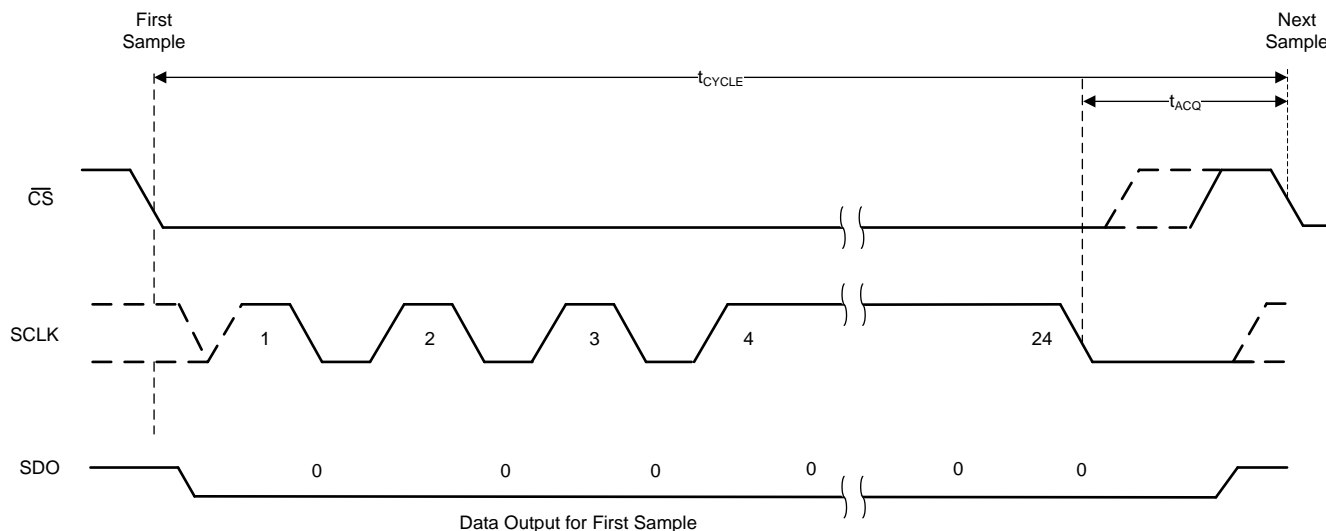
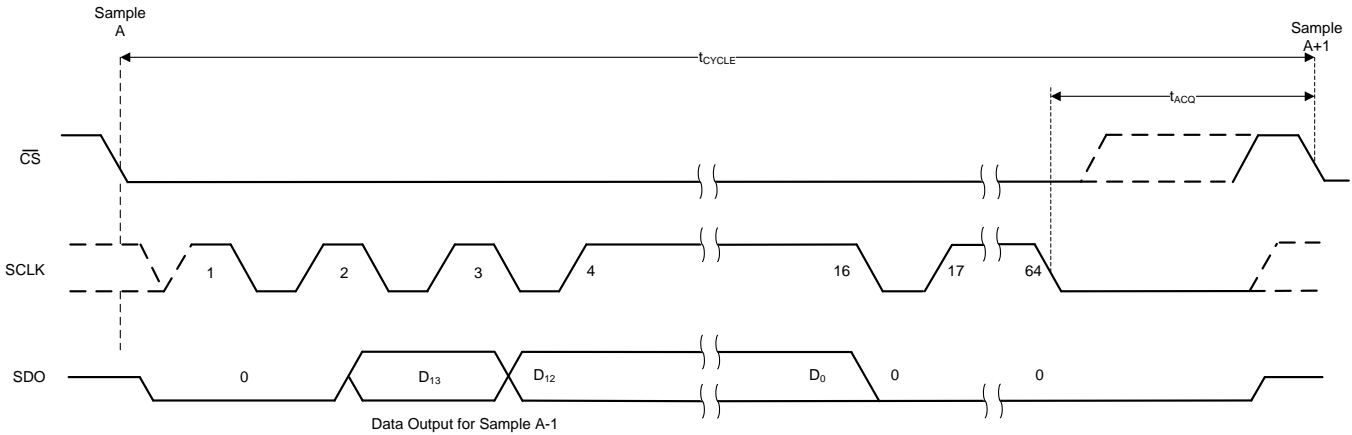

Figure 38. Timing for Offset Calibration on Power-Up
Figure 39. Timing for Offset Calibration During Normal Operation
The host controller must provide a serial transfer frame as described in Figure 38 or in Figure 39 to enter the OFFCAL state.
If the host controller starts the offset calibration process but then pulls the  $\overline{CS}$  pin high before providing 24 SCLKs, then the offset calibration process is aborted and the device enters the ACQ state. Figure 38 and Table 3 provide the timing for offset calibration on power-up.
(1) In addition to the timing specifications of Figure 38 and Table 3, the timing specifications described in Figure 2 and the Timing Requirements table are also applicable for offset calibration on power-up.
If the host controller provides more than 18 SCLKs but pulls the  $\overline{CS}$  high before providing 64 SCLKs, then the offset calibration process is aborted and the device enters the ACQ state. Figure 39 and Table 4 provide the timing for offset calibration during normal operation.
(1) In addition to the timing specifications of Figure 39 and Table 4, the timing specifications described in Figure 2 and the Timing Requirements table are also applicable for offset calibration during normal operation.